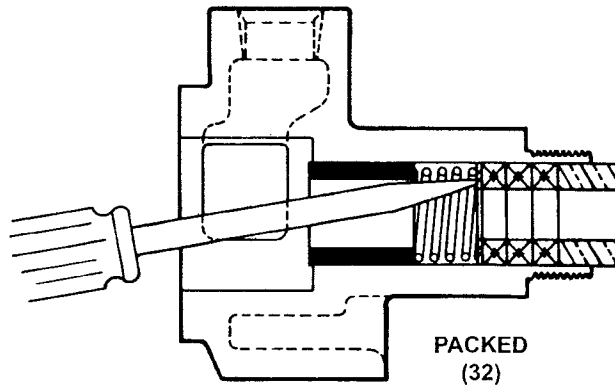

FIGURE 3
5. The pump is now ready for removal of the packing or mechanical seal. Refer to Figure 3 or 4 for example. It is recommended a new mechanical seal or packing rings be used every time a pump is completely disassembled.